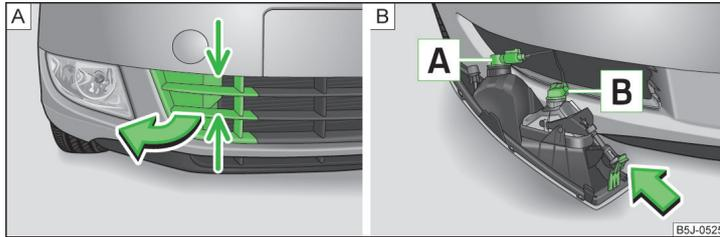

Fig. 158 Front bumper: Protective grille/removing the fog light
Bulb location » Fig. 158.
› Grasp the protective grille in the areas marked by the arrows » Fig. 158 - **A** and remove the cover in the direction of the arrow.
- › Insert your hand into the opening in the protective grille and press the catch » Fig. 158 - **B** in the direction of the arrow.